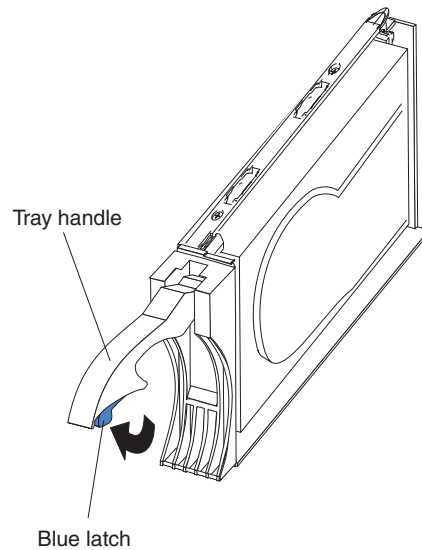

Figure 37. Drive CRU latch
- b. Pull the handle on the tray out so that it is in the open position, as shown in Figure 37.
- a. Press on the inside of the bottom of the tray handle to release the blue latch as shown in Figure 37 on page 39.